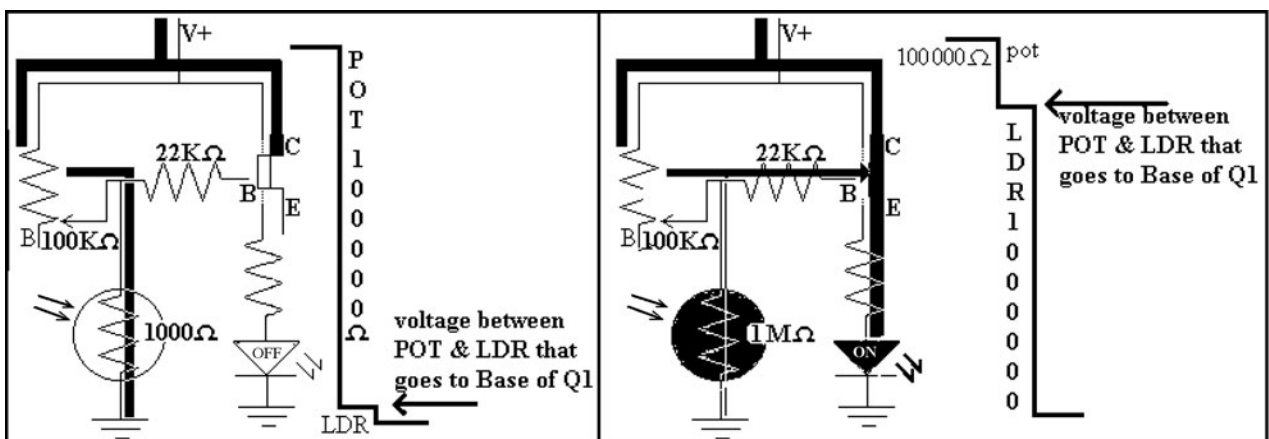

Figure L12-7
8. Set the pot so the resistance between legs A and C, the center leg, is close to 100 kilo-ohms. Figure L12-7 shows how the voltage is responding to the changing resistance of the